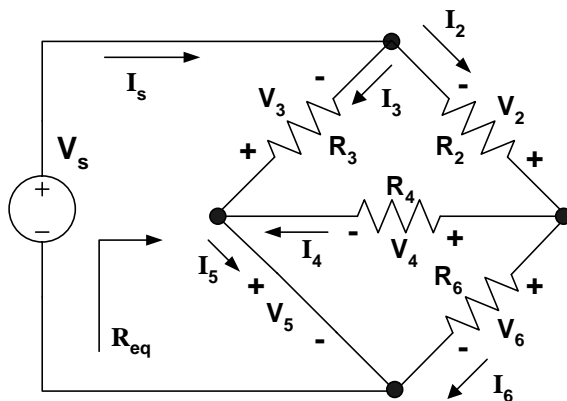

Figure 3: Series-parallel circuit I
1. Build the circuit given in Fig. 3 on *Multisim Electronics Workbench*.
5. Build the circuit of Fig. 3 with the hardware components. Take the voltage current measurements and  $R_{eq}$  and record them in Table 1. Considering the Workbench results as the base, compute the percentage errors.
Table 1: Simulation and experimental results for Fig. 3
Refer to Fig. 3 and the results of Table 1: